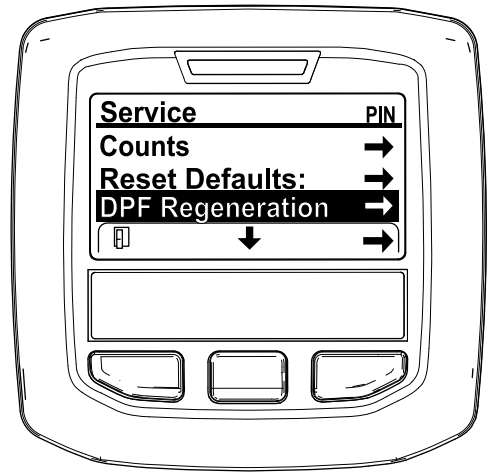

Figure 27
3. In the SERVICE MENU, press the middle button until the DPF REGENERATION options displays, and press the right button to select the DPF REGENERATION option (Figure 27).